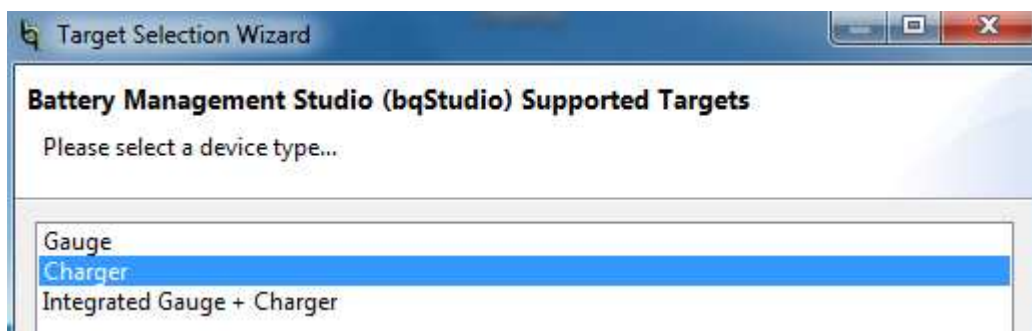

Figure 3. Selection Window of the bqStudio Evaluation Software
- Turn on the computer. Launch *Battery Management Studio* (bqStudio). Select *Charger* and either *Charger_1_00-bq25601.bqz* or the *Charger_1_00-bq25601D.bqz* evaluation software. The main window of the software is shown in Figure 3.